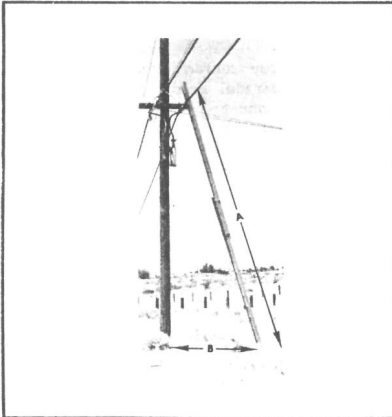

FIGURE 18.
11.01 Use care in positioning ladders before climbing them. Place the foot of the ladder on the ground or other firm support so that distance A (as shown in Figures 18 and 19) is approximately 1/4 of distance B. If distance A is greater than 1/4 of distance B, there is danger of imposing excessive